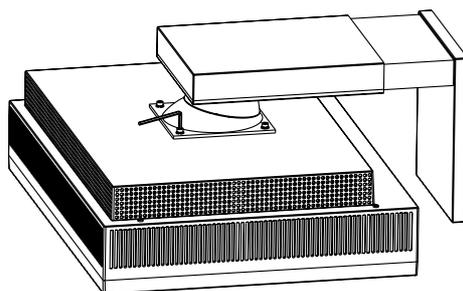

Figure S.2
3. Remove the four screws connecting the monitor to the stand using the Hexagon Socket Screw keys (**Figure S.2**). Lift the stand of the monitor. The monitor is now ready for mounting in an alternate manner.